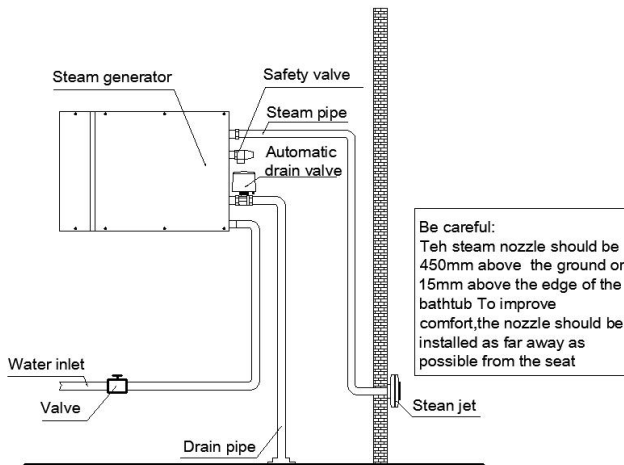

Fig.2
2. Water inlet pipe - The water inlet pipe is introduced by the existing 4 branch pipes, and connected to the valve of the water inlet and water supply pipe of the machine respectively with a 4 branch metal hose (please refer to Figure 2).